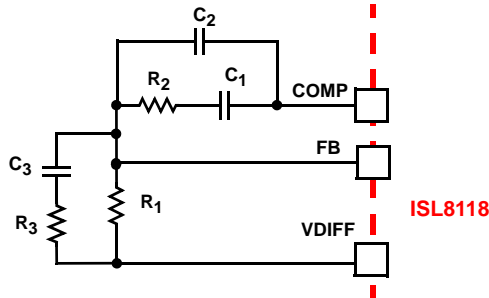
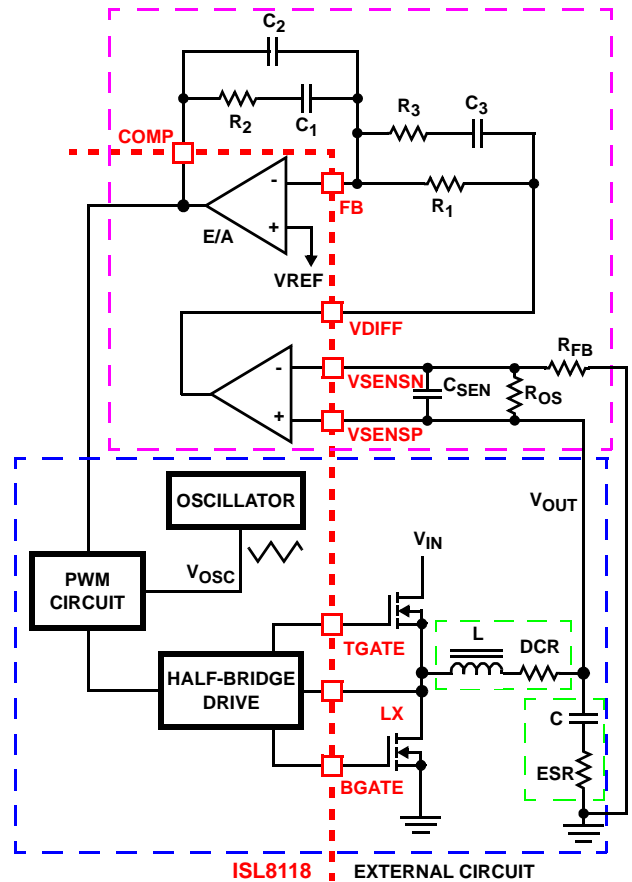

FIGURE 9. COMPENSATION CONFIGURATION FOR ISL8118 WHEN USING DIFFERENTIAL REMOTE SENSE
FIGURE 10. VOLTAGE-MODE BUCK CONVERTER COMPENSATION DESIGN
The ISL8118 single-phase converter is a voltage-mode controller. This section highlights the design considerations for a voltage-mode controller requiring external compensation. To address a broad range of applications, a type-3 feedback network is recommended (see Figure 9).
Figure 10 highlights the voltage-mode control loop for a synchronous-rectified buck converter, when using an internal differential remote sense amplifier. The output voltage (V_{OUT}) is regulated to the reference voltage, V_{REF}, level. The error amplifier output (COMP pin voltage) is compared with the oscillator (OSC) triangle wave to provide a pulse-width modulated wave with an amplitude of V_{IN} at the LX node. The PWM wave is smoothed by the output filter (L and C). The output filter capacitor bank’s equivalent series resistance is represented by the series resistor ESR.
The compensation network consists of the error amplifier (internal to the ISL8118) and the external R₁-R₃, C₁-C₃ components. The goal of the compensation network is to provide a closed loop transfer function with high 0dB crossing frequency (F₀; typically 0.1 to 0.3 of F_{SW}) and adequate phase margin (better than 45°). Phase margin is the difference between the closed loop phase at F_{0dB} and 180°. The equations that follow relate the compensation network’s poles, zeros and gain to the components (R₁, R₂, R₃, C₁, C₂, and C₃) in Figures 9 and 10. Use the following guidelines for locating the poles and zeros of the compensation network:
1. Select a value for R₁ (1kΩ to 10kΩ, typically). Calculate value for R₂ for desired converter bandwidth (F₀). If setting the output voltage to be equal to the reference set voltage as shown in Figure 9, the design procedure can be followed as presented. However, when setting the output voltage via a resistor divider placed at the input of the differential amplifier (as shown in Figure 10), in order to compensate for the attenuation introduced by the resistor divider, the below obtained R₂ value needs be multiplied by a factor of (R_{OS}+R_{FB})/R_{OS}. The remainder of the calculations remain unchanged, as long as the compensated R₂ value is used.
A small capacitor, C_{SEN} in Figure 10, can be added to filter out noise, typically C_{SEN} is chosen so the corresponding time constant does not reduce the overall phase margin of the design, typically this is 2x to 10x switching frequency of the regulator. As the ISL8118 supports 100% duty cycle, d_{MAX} equals 1. The ISL8118 also uses feed-forward compensation, as such V_{OSC} is equal to 0.16 multiplied by the voltage at the VFF pin. When tying VFF to V_{IN} the above equation simplifies to: